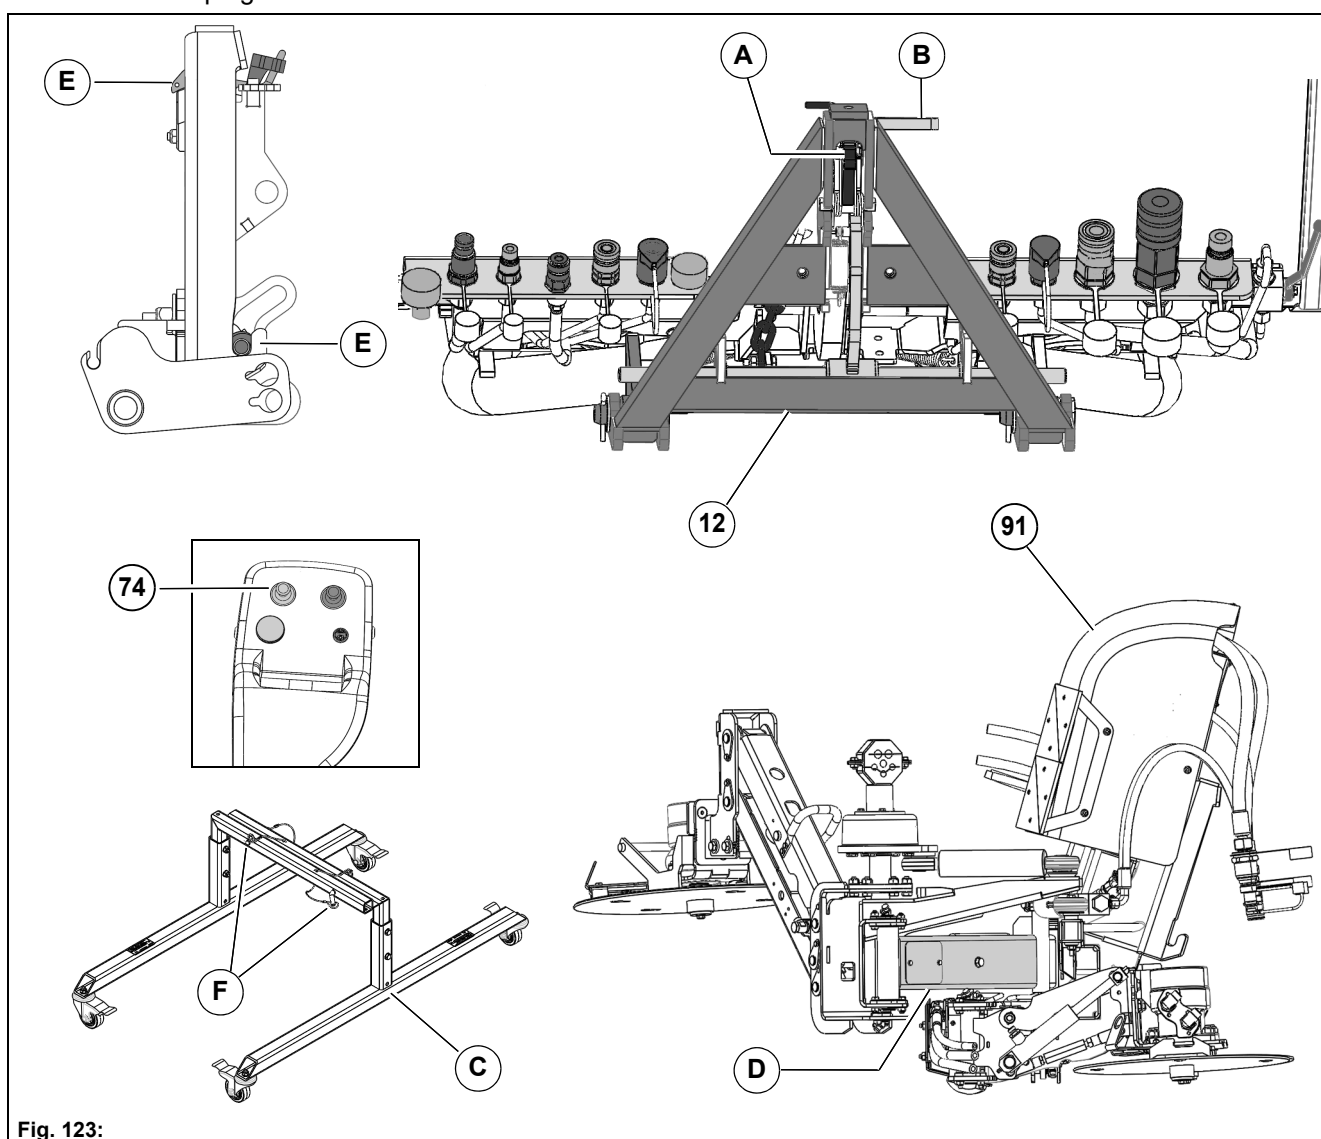

Fig. 123:
1. Unlock the locking hook **Fig. 123-A** and locking rod **Fig. 123-B** on the front tool carrier **Fig. 123-12**. Lower the front tool carrier with the joystick **Fig. 123-74**.
2. With the trolley **Fig. 123-C** (optional), align the sweeping unit **Fig. 123-91** centrally and in alignment with the front tool carrier.
3. With an adjustable upper link (optional), set the standard length, see page 76 (Set the arm **Fig. 123-D** of the sweeping unit parallel to the floor).
5. Lock the sweeping unit with the locking hook and locking rod. Check the backlash on the locking hook, see **Fig. 123-E**, adjust if necessary with elongated holes.
6. Disassemble the bolts **Fig. 123-F** of the trolley and pull the trolley out from the sweeping unit.